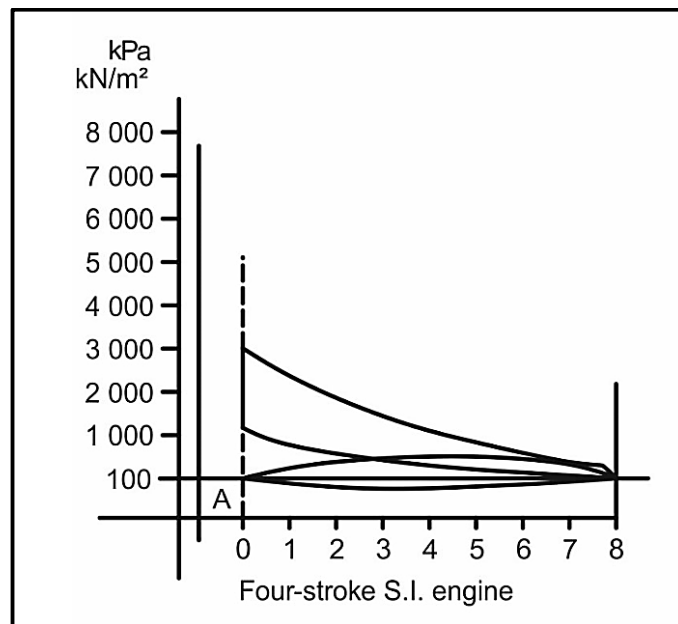

FIGURE 4.7
4.7 Identify the diagram shown in FIGURE 4.7 below.